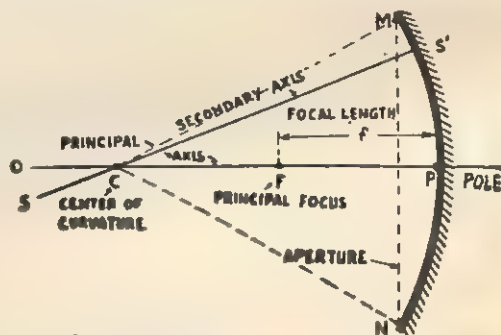

Fig. 11.7. Terminology of curved mirrors.
**2. Curved-mirror terminology.** Terms are defined with reference to Fig. 11.7.
(vi) The principal *Focus* F is the point on the principal axis to which rays parallel to the principal axis converge after reflection. The point F is mid-way between C and P as shown in Fig. 11.7.